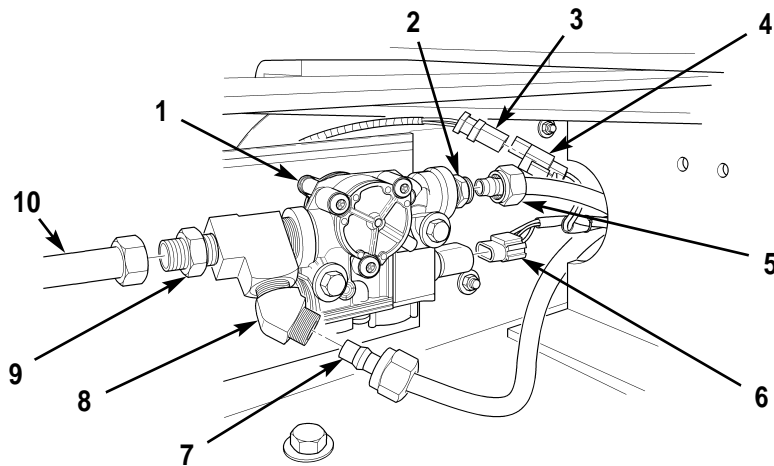

Figure 6. Connecting Rear Wheel Sensor and Modulator.
5. Connect tube (figure 6, item 10) to adapter (figure 6, item 9) on rear modulator (figure 6, item 1).
6. Connect two tubes (figure 6, Items 4 and 7) to elbow (figure 6, item 8) and adapter (figure 6, item 1) on rear modulator (figure 6, item 9).
7. Connect modulator harness connector (figure 6, item 6) to rear modulator (figure 6, item 1), and connect wheel sensor cable (figure 6, item 3) to wheel sensor harness connector (figure 6, item 4).